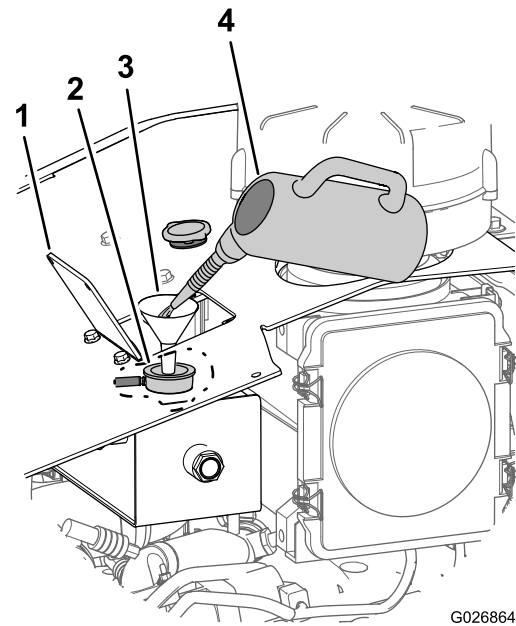

Figure 107
- B. Add a cooling system cleaning solution to the to the cooling system through the filler neck of the recovery tank (Figure 107).